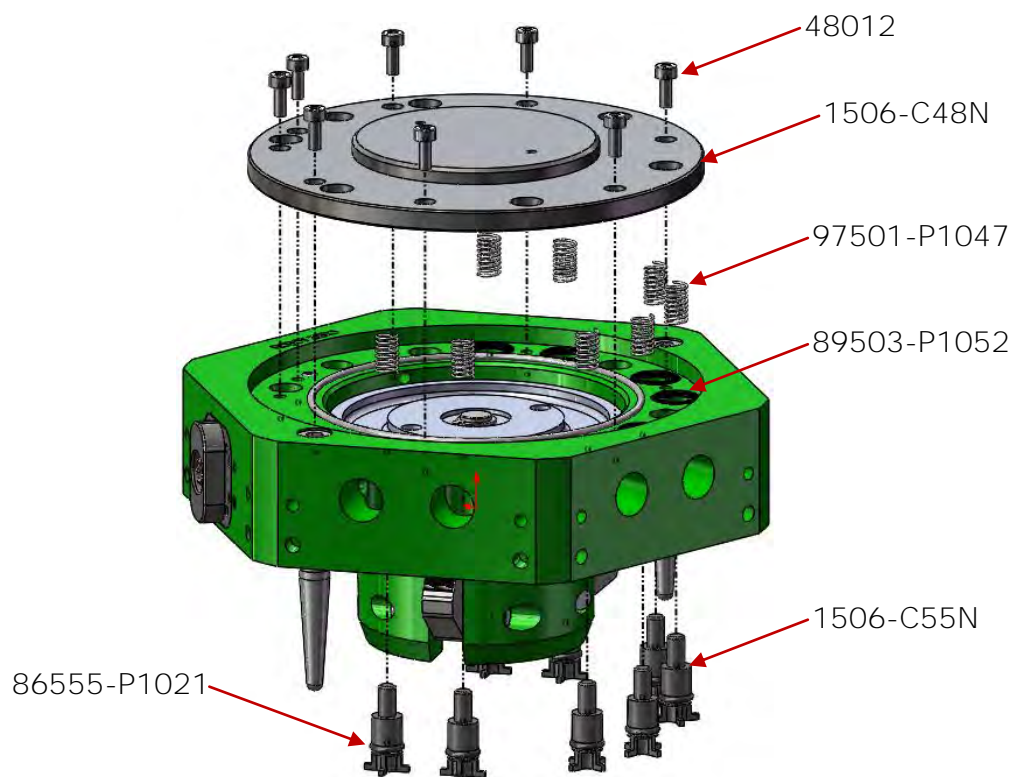

Figure 10.1.3-1. Poppet Valve Removal
4. Using a punch, drive the Poppet Valve(s) (1506-C55N) through the front face of the Robot Adaptor (Figure 10.1.3-1). Note that this step will likely destroy the Poppet Valve and o-ring (86555-P1021). Discard the valve and o-ring after removal.